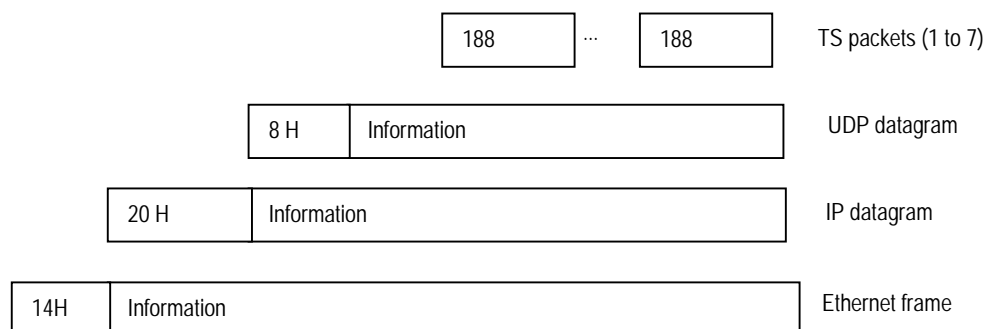

Figure 6.2: Building the Ethernet Frame
Figure 6.2 shows a more detailed picture of the MPEG-2 data transfer. TS-packets are mapped in a datagram, using User Data Protocol (UDP), Internet Protocol (IP) and Ethernet.